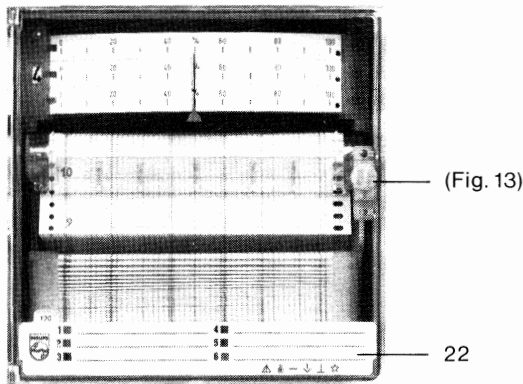

Fig. 15 Front of Motorized Point Recorder 144
In recorders with 2 . . . 6 measuring ranges the correlation between the input channels and measuring ranges is marked on the channel identifying label (22, Fig. 15) as shown below:
(Fig. 15)
The channel identifying label (22, Fig. 15) is fitted to the inside of the recorder door. It is intended for TAG marking or for similar channel identification.
- (22, Fig. 15) Channel identifying label (remove backwards)